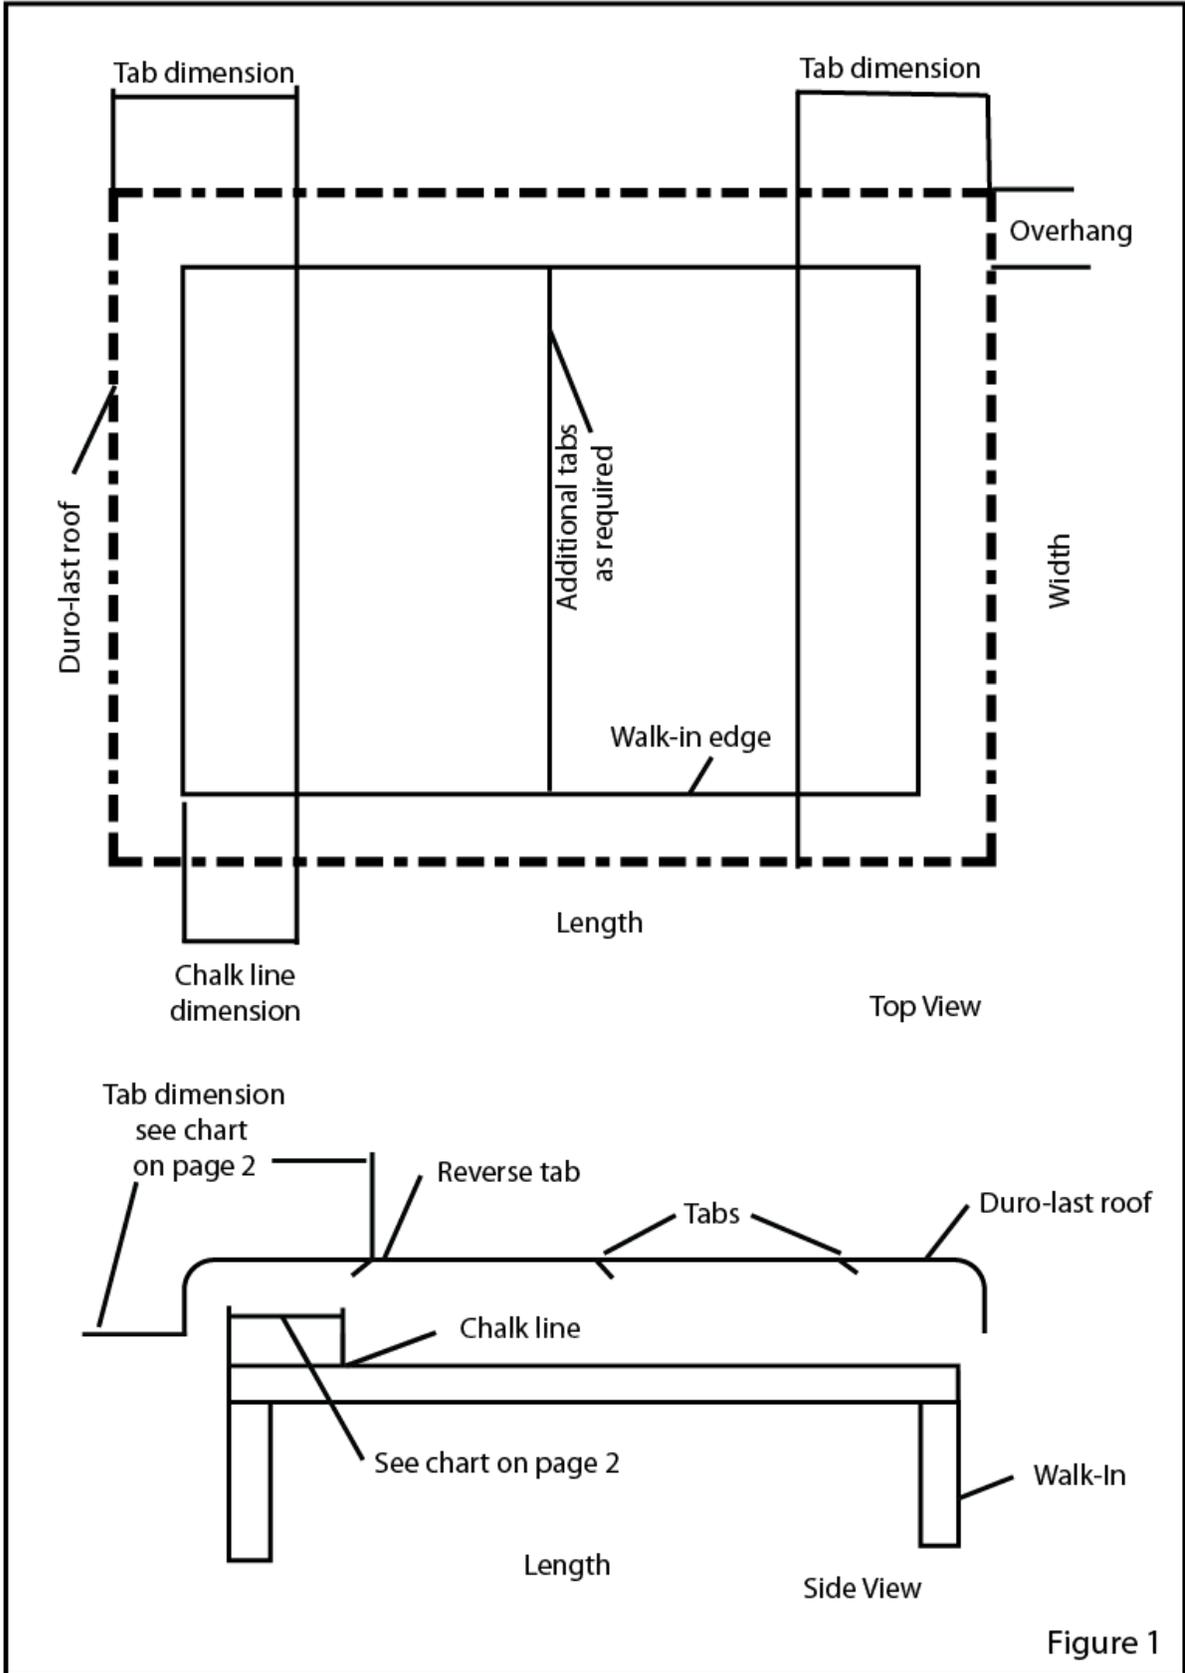

Figure 1
- A. Length (see chart page and Figure 1.)
- B. Width (see chart page 1 and Figure 1.)
- D. Check dimension from end of roof material to 1st tab (at welded seam). See Figure 1.